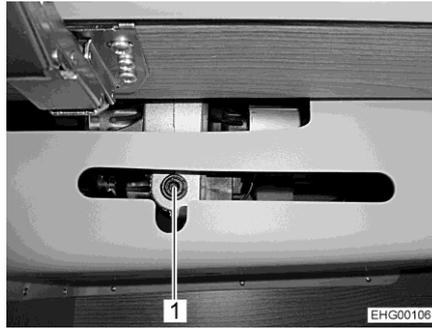
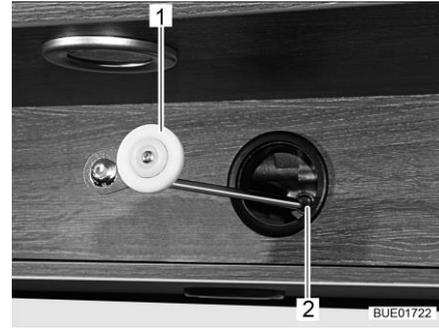

Fig. 146 Access to drive
Fig. 147 Mechanical operation, drive
- If the holder (Fig. 146,1) for the drive is installed in the wall-mounted cupboard: open the wall-mounted cupboard.
- Insert the crank (Fig. 147,1) provided or an Allen wrench into the accommodation on the motor (Fig. 146,1 and Fig. 147,2).